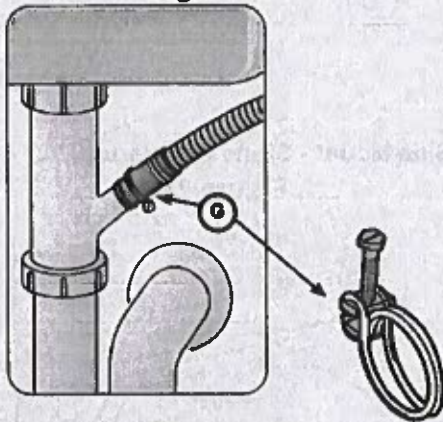

Figure 16
4. Use the clamp provided to attach the Rubber Drain Hose Adaptor to the house plumbing as shown in Figure 16.